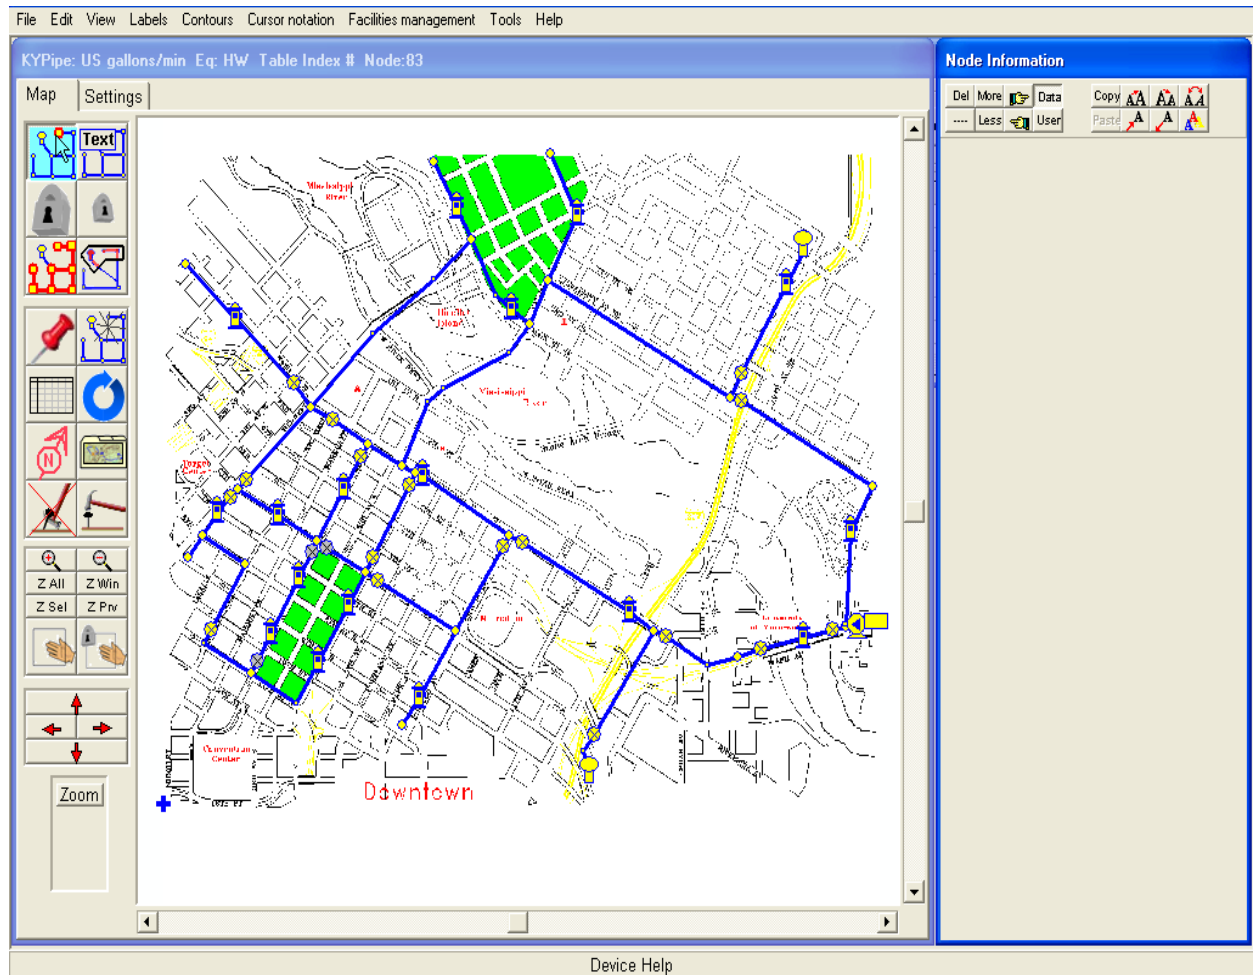

Figure 1.2 GFM GUI with Network Schematic Super-imposed on Background Map
2. The existing infrastructure can be displayed in graphical form superimposed on a topographic map. The topographic map can display the physical relationships that the existing system infrastructure has with its surroundings in terms of elevations and natural and urban geographical features. The GFM has been designed with the capability to upload a background map that would contain such information (see Figure 1.2).